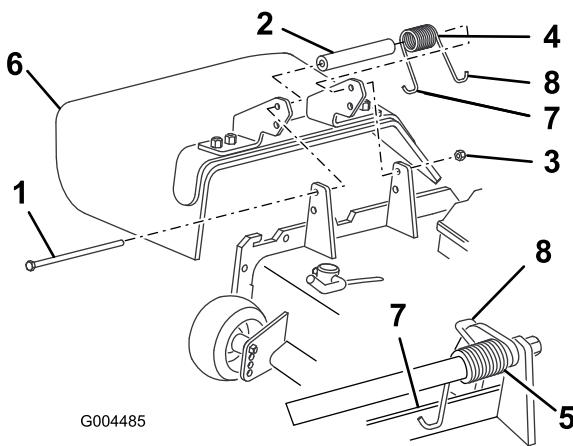

Figure 75
- Remove the locknut, bolt, spring and spacer holding the deflector to the pivot brackets (Figure 75). Remove damaged or worn grass deflector.
3. Place the spacer and spring between the replacement grass deflector brackets (Figure 75). Place the left hand J-hook end of the spring behind the deck edge.
Note: Make sure the left hand J-hook end of the spring is installed behind the deck edge before installing the bolt as shown in Figure 75.
4. Install the bolt and nut. Place the right hand J-hook end of the spring around the grass deflector (Figure 75).